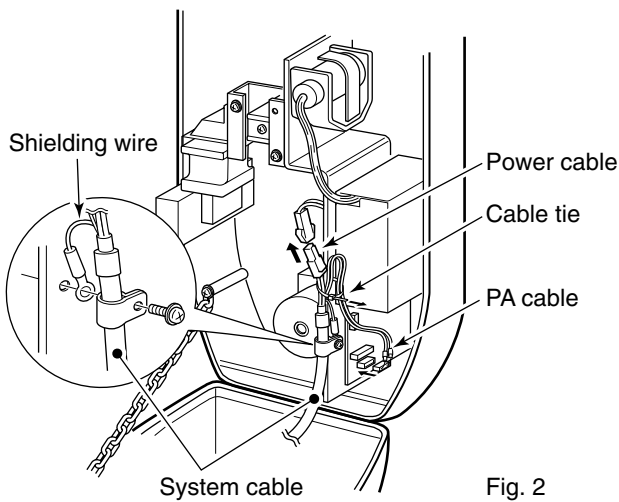

Fig. 2
- ③ Connect the power cable (black and red) end to the power unit connector through the rouped cable tie. (Fig. 2)
- ④ Insert the PA cable (black and white) connector to the PA unit connector. Be sure to follow the diagram below carefully. (Fig. 2)
- ⑤ Connect the shielding wire to the chassis with the screw as shown in the diagram. (Fig. 2)
- Fix the PA cable with the rouped cable tie as illustrated in Fig. 2.